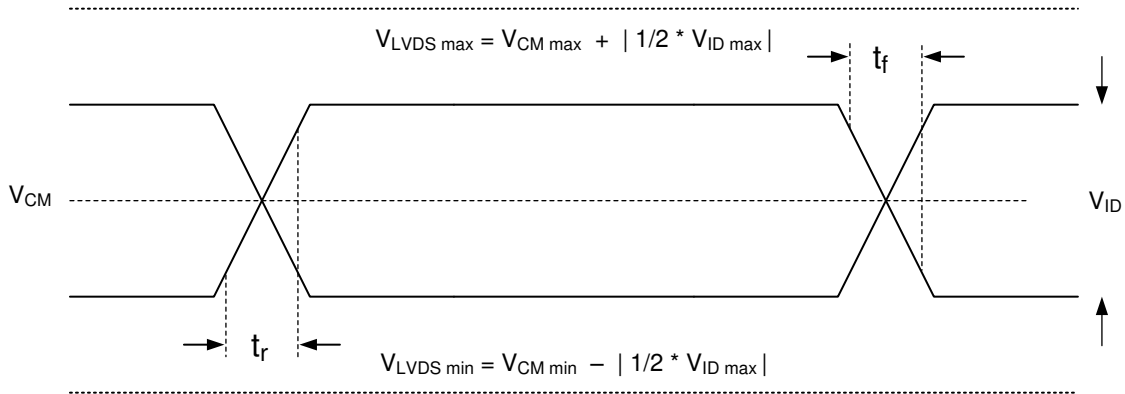

Figure 6-5. LVDS Waveform Requirements
- (10) See Figure 6-5 LVDS Waveform Requirements.
- (11) Simultaneous exposure of the DMD to the maximum Section 6.4 for temperature and UV illumination reduces device lifetime.
(2) See Figure 6-5 for Timing Requirements for LVDS.
(3) Channel C (Bus C) includes the following LVDS pairs: DCLK_CN and DCLK_CP, SCTRL_CN and SCTRL_CP, D_CN(15:0) and D_CP(15:0).
(4) Channel D (Bus D) includes the following LVDS pairs: DCLK_DN and DCLK_DP, SCTRL_DN and SCTRL_DP, D_DN(15:0) and D_DP(15:0).